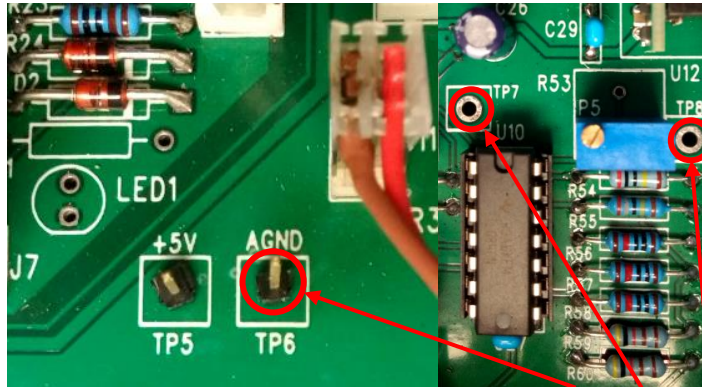

Figure 6. Internal Voltage Measurement Test Points TP6, TP7 y TP8.
5.1.5. Using DMM1, adjust P5 so that the voltage at TP8 to AGND “TP6” is -1/39 of the Power supply voltage (-1.5385 V_{DC} if the voltage is 60V_{DC} for example). You can see both TP8 & TP6 test points on Figure 6.
5.2.2. Using DMM1, Adjust P2 so that the voltage at TP7 to AGND “TP6” is -1/39 of the Power supply voltage (-1.5385V_{DC} if the voltage is 60V_{DC} for example). You can see both TP7 & TP6 test points on Figure 6.